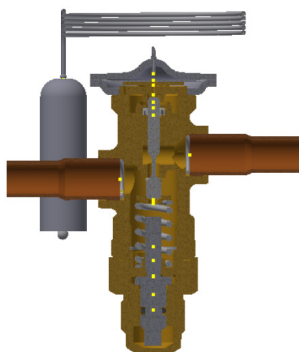

Fig. 3 TR6 with adjustable setting
Static superheat (SS) can be adjusted with the setting spindle (see fig. 3, pos. 6).